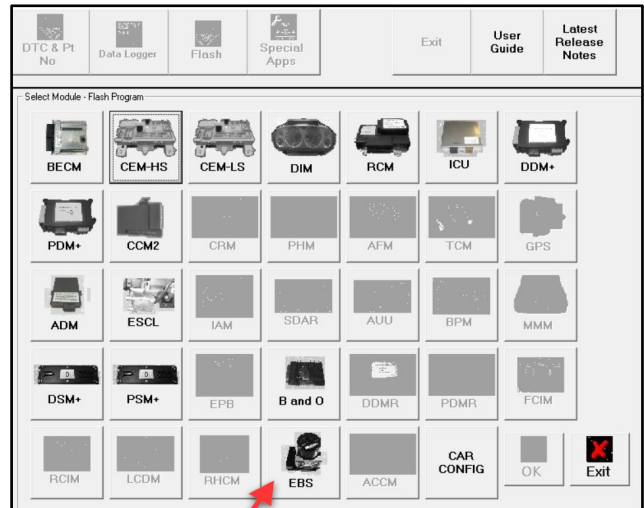

Figure 10
16. From the Flash menu, press “ALT” on the keyboard and click “EBS” (refer to Figure 10).